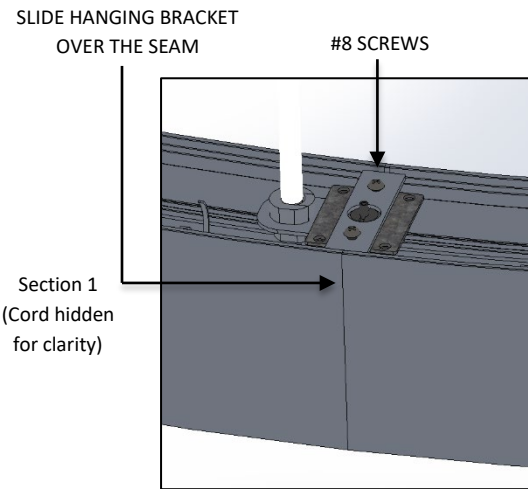

FIG. 20 – BRACKETS INSTALLATION
19. Loosen the 2 #8 screws on top of the hanging bracket and slide the bracket over so that it is centered over the seam between section 1 & section 2 as shown in FIG. 20. Tighten the #8 screws so the bracket stays in place.